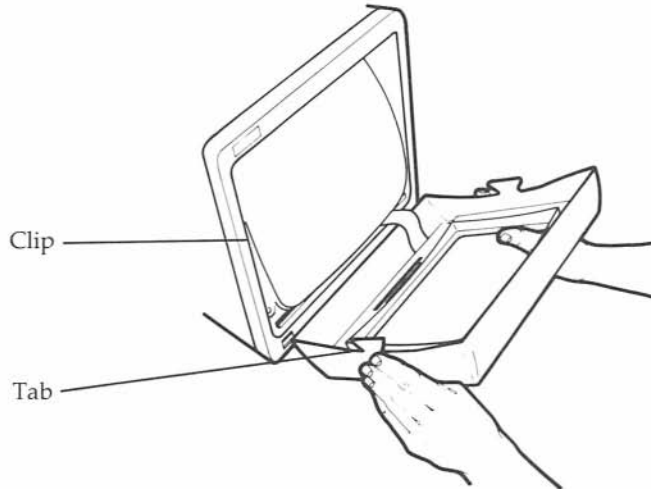

Figure 10-5. Aligning HP Touch with monitor.
6. Hold HP Touch in front of the monitor. Tilt the top of HP Touch toward the monitor. Line up the upper edge of HP Touch's side mounting tabs so that they slip under the retainer clips on the monitor (Figure 10-5).